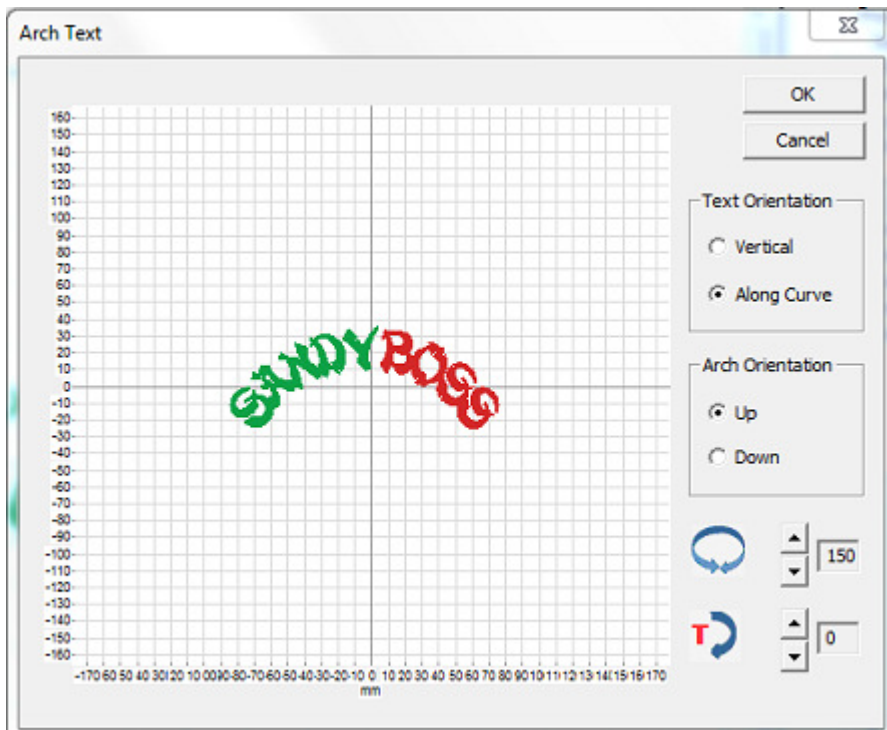

Figure 1 The "Arch Text" dialog.
Use this Tools menu command to open a dialog (see Figure 1) for placing individual letters (text) on an arch. The letters can arise either from merging embroidery letters (alphabets) into **SewWhat-Pro** or from letters that have been created in the **SewWhat-Pro** lettering dialog. Note that the grid used in the main workspace is imported into arching workspace.
2. Click the Arch toolbar button (or the associated menu item). The arching dialog in Fig. 1 will open with the selected text displayed.
1. You can adjust the **curvature** of the arch by clicking the spin-control next to the rotation icon (the two-headed arrow in Fig. 1 displaying the value 150 degrees). Clicking on the up-arrow will increase this value and lead to a more circular arch; clicking the down-arrow will decrease this value leading to a "flatter" arch.
2. You can position the lettering *on* the arch by clicking the lower spin-control next to the "text rotation" icon (with the red "T" in Fig. 1, displaying 0 degrees). A value of "0" in this case means that the lettering is arranged symmetrically around the vertical axis. Increasing (or decreasing) this value will move *all* the letters along the arch by the indicated number of degrees.
4. Choose the letter arrangement - either vertical or along (parallel to) the arch (as shown in Fig. 1).
5. The lettering can be arranged to be "up" on the arch (as shown in Fig.1) or down.